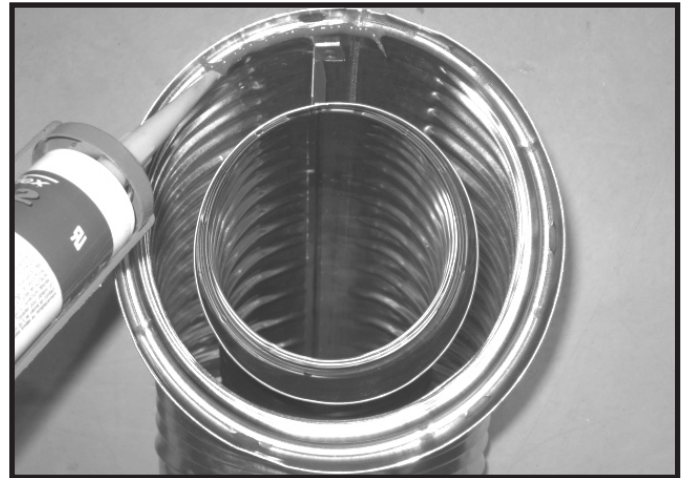

Figure 7.1 High Temperature Silicone Sealant
- Align the seam of the pipe and seam of collar to allow engagement. Rotate the vent component to lock into place. Use this procedure for all vent components. See Figure 7.1.
- Apply a bead of silicone sealant (300 °F minimum continuous exposure rating) inside the female outer pipe joint prior to joining sections. See Figure 7.1 **OR**